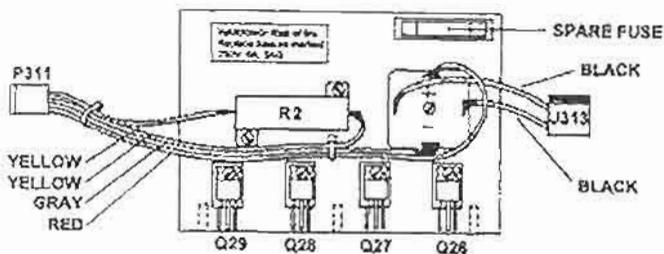
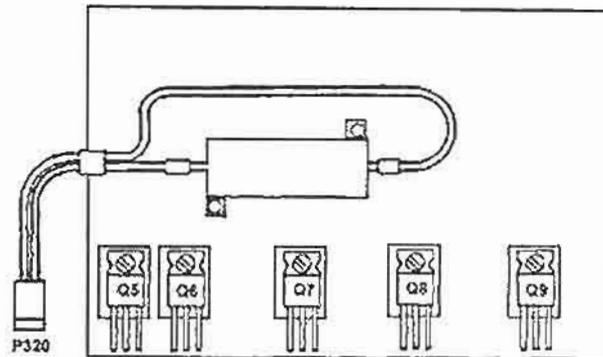

Figure 4-24. Heat sink assembly, power supply.
Figure 4-27. Heat sink assembly, electronic clamp.
4-17. Heat sink assemblies (fig 4-24 through fig 4-27).
- (11) Lift out the PSRF PCB using extreme caution and place it upside down.
- (12) Disconnect the electronic plug(s), identified in figures 4-24 through 4-27, from the specific heat sink(s) you need to remove.
- (13) Remove the three slotted screws fastening the specific heat sink assembly you need to remove. Set them aside.
- (14) Gently pull the heat sink assembly from the PSRF PCB.